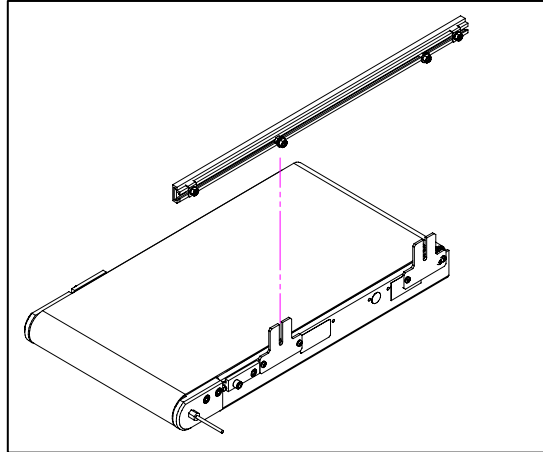

Figure 3
③ Mount the Guide Rail
a. The Guiderail/Square Nut/Set Screw/Washer or Jam Nut assembly can now be set on the Guide Brackets attached to the conveyor (**Figure 3**).